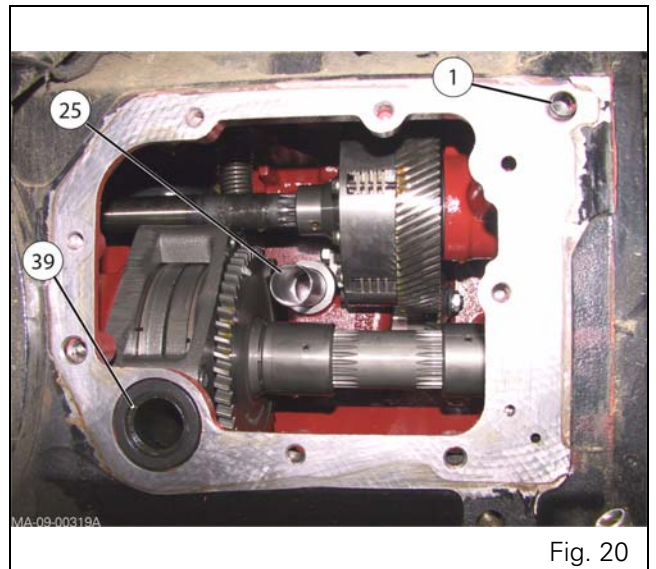

Fig. 20
18. Clean the mating face of the housing and check the transfer pipe (25) is in place. Fit a new seal (39). Check the two locating pins (1) are in place (Fig. 20).